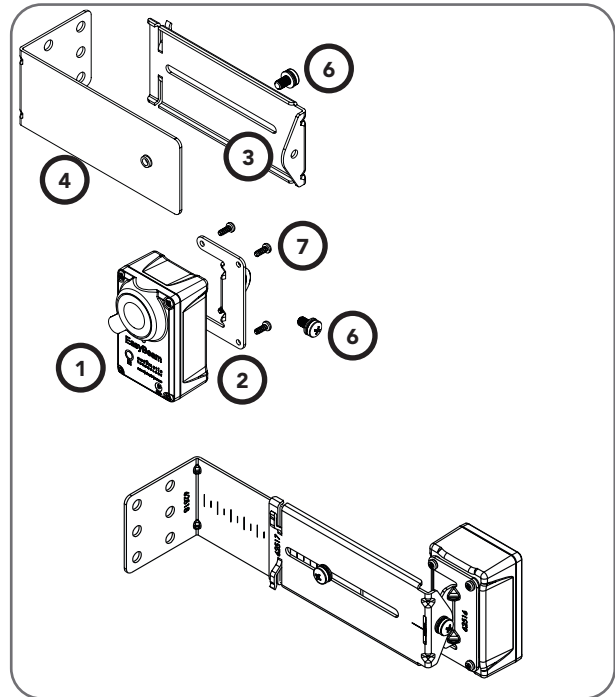

Fig 8.1
- Attach the mounting bracket (4) to the adjustment bracket (3) with the pan head screw (6). (Fig. 8.1)
- Attach the bracket (2) to the Safety Beam transmitter with four tap-tite screws (M3 x 5) (7) and attach the other side to the adjustment bracket (3) with the pan head screw (6).